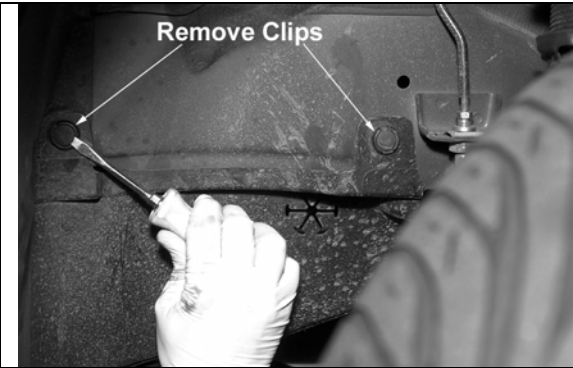

Fig. 11
- q) In the driver's side wheel well, remove the two clips that hold the splash shield in place. **(Fig. 11)**